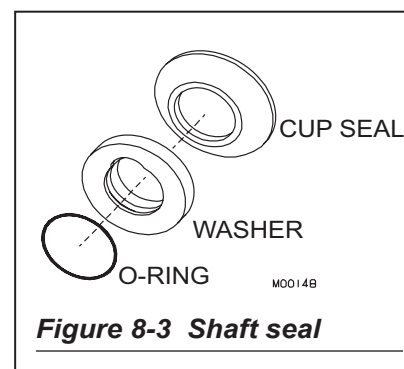

Figure 8-3 Shaft seal
5. (See figure 8-3.) Remove the cup seals and o-rings from the plastic washers on the shaft seal assemblies.